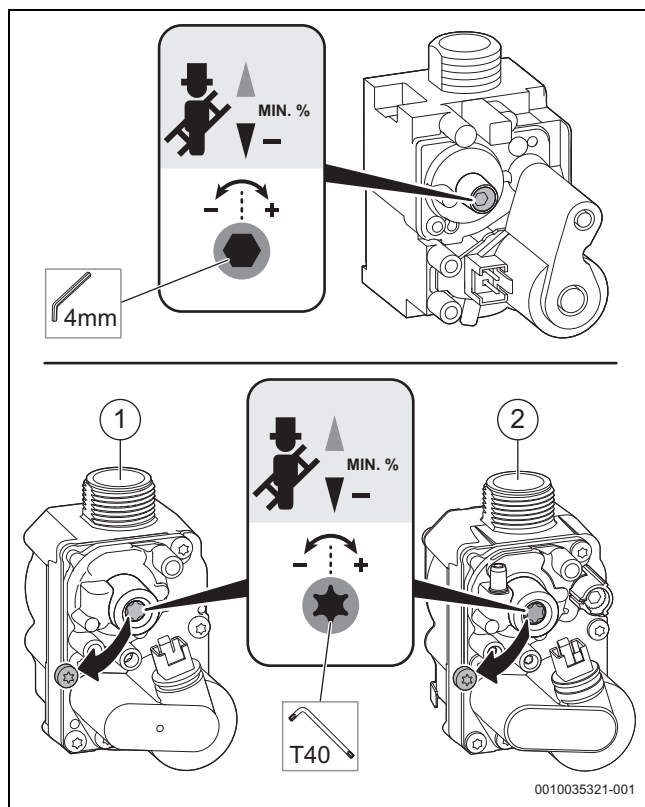

Fig. 87 Setting the CO₂ content (above: SIT valve, below Honeywell valves)
- Remove the seal from the adjusting screw of the gas valve (only gas valve is shown in the below Figure 87) and set the CO₂ content for minimum rated output.